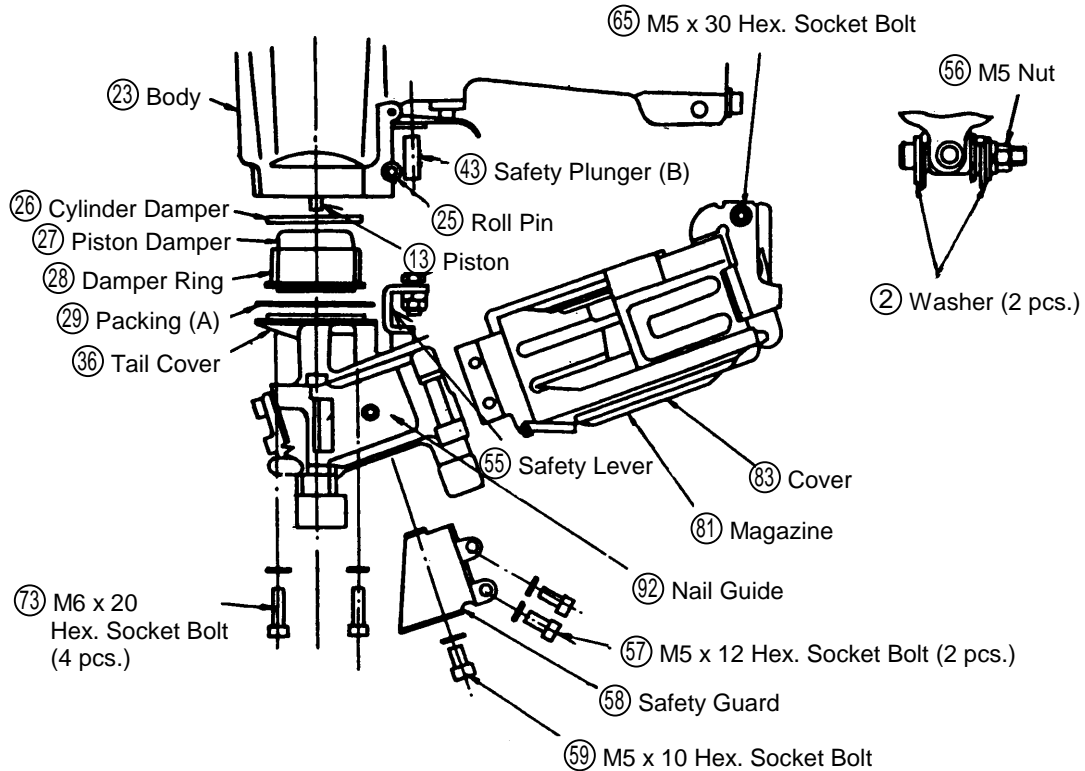

Fig. 9 Piston damper, Packing (A)-disassembly/reassembly
(1) Disassembly:
- By removing the ϕ 3 x 30 Roll Pin (25), taking out the M5 x 30 Hexagon Socket Hd. Bolt (65) retaining the Magazine (81), the four M6 x 20 Hexagon Socket Hd.
Bolts ⑦③, retaining the Tail Cover ③⑥, the Piston Damper ②⑦, Damper Ring ②⑧, Cylinder Damper ②⑥, and Packing (A) ②⑨, can be removed. (see Fig. 9)